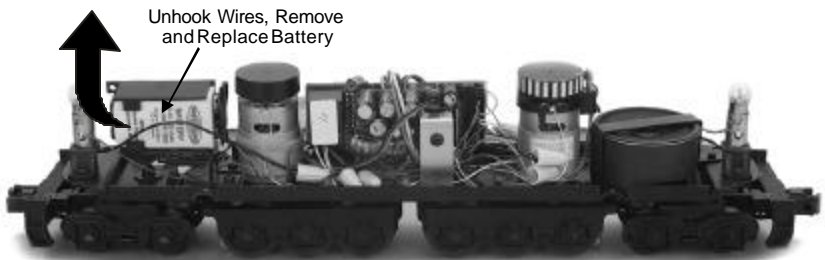

Figure 6. Unhook the Battery Leads, Remove the Battery and Replace with a New One.
- If the garbled or distorted sounds are reduced, the battery charge has run down and can be recharged. Do this by leaving the engine in neutral with track voltage at 12 volts for 6-7 hours so the battery can fully recharge (if your engine has a smoke unit, be sure it is turned off). Or you can remove the battery (*see Fig. 6 below*) and charge it in any standard slow charge battery recharger, following the recharger's directions.
- If the sounds are not improved at the end of the 15 minute test charge, it is time to replace the battery (*see Fig. 6 below*). Contact the M.T.H. Parts Department (phone: 410-381-2580; e-mail: parts@mth-railking.com; mail: 7020 Columbia Gateway Drive, Columbia MD 21046-1532) for a replacement battery. A standard 9v alkaline battery can be substituted until your replacement arrives, but since alkaline batteries cannot be recharged, it will eventually wear down. Do NOT use a 6-cell 7.2v battery like those found in most convenience stores.